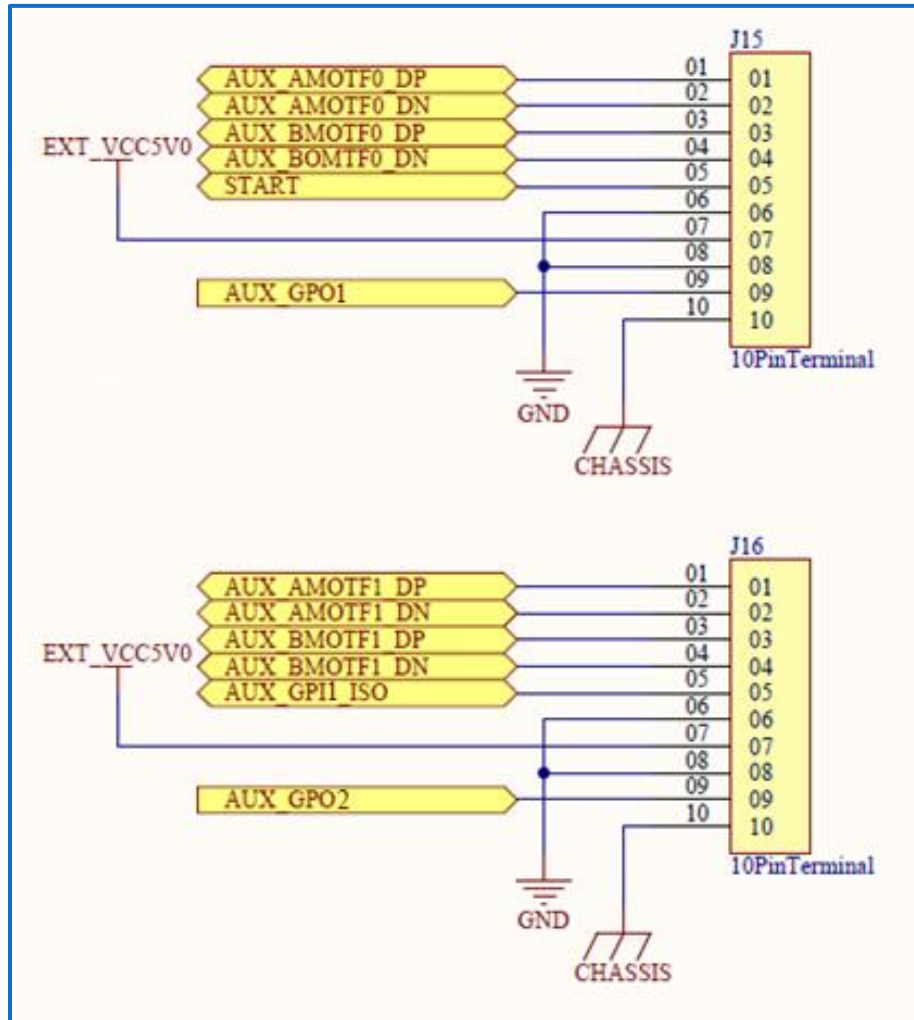

Figure 31 - J15 MOTF Port 0 (X) and J16 MOTF Port 1 (Y)
- Figure 31 - (J15 MOTF Port 0 (X) and J16 MOTF Port 1 (Y)).